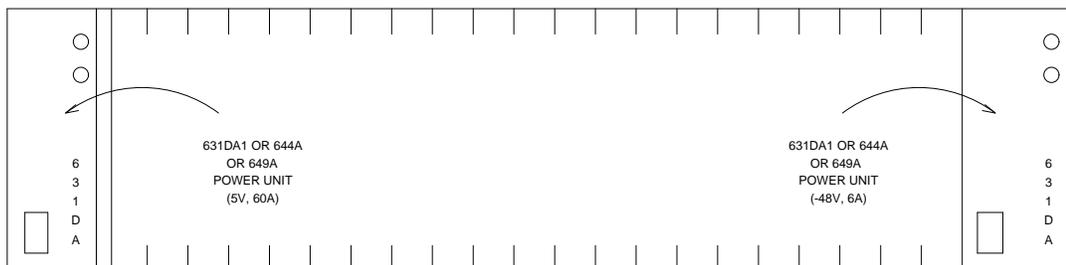

Figure 4-23. Locations of Power Units
- Connect the power cords to the power units. The power cords are the white cables equipped with plugs that are run through the slots in the front of each carrier (See Figure 4-23).